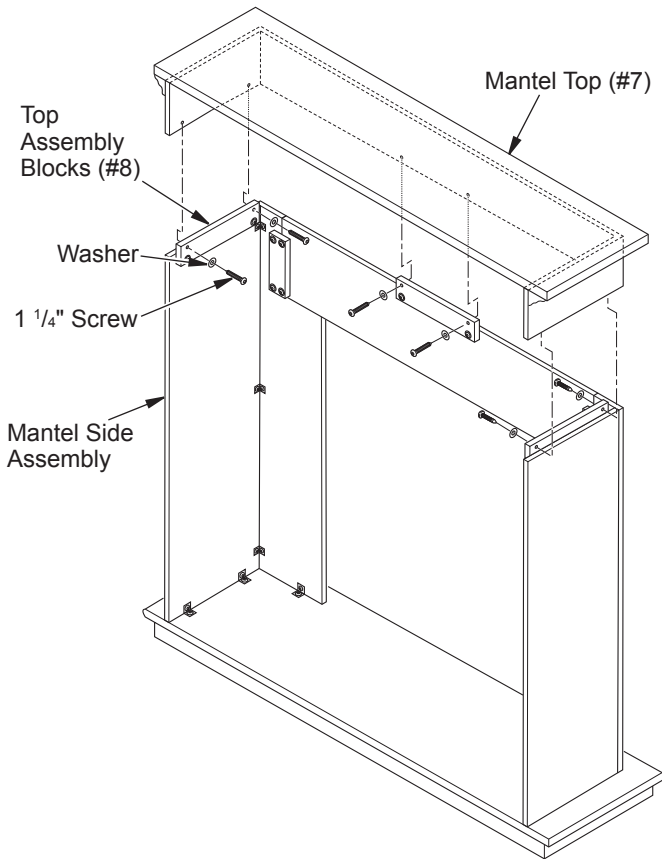

Figure 4 - Attaching Mantel Top
1. Start two 1 1/4" screws with washers through each of the three header assembly blocks (#8) and into threaded inserts on mantel as shown in Figure 4.
2. Place mantel top (#7) on mantel assembly. Align back of top with back of sides. Using six 1 1/4" screws with washers, install two in each header assembly block (#8) (see Figure 4). Make sure all pieces are aligned properly and tighten all screws.